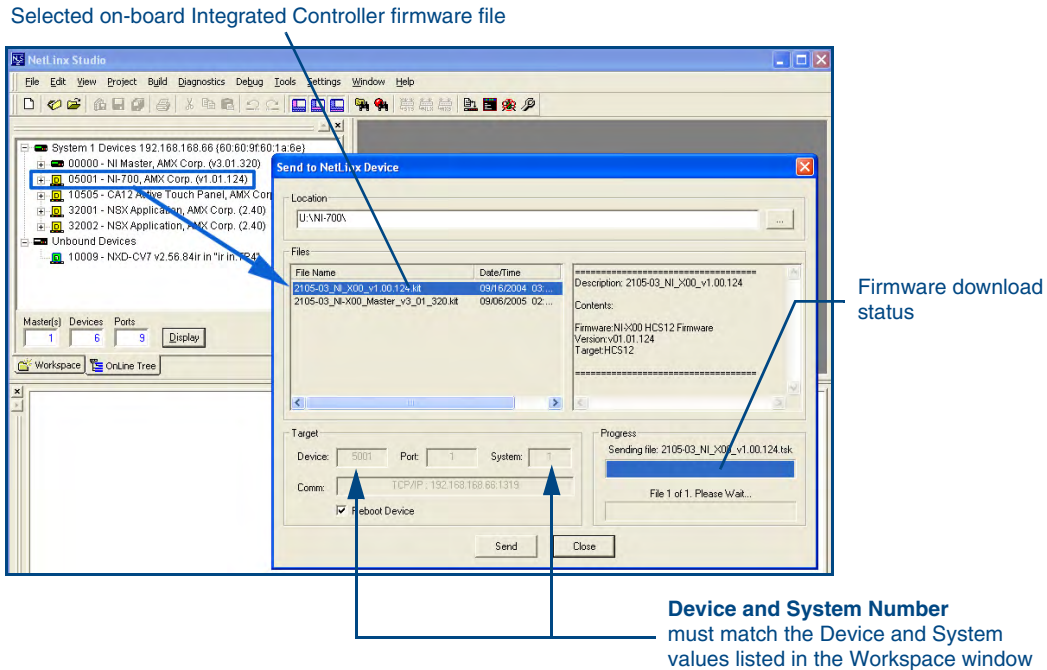

FIG. 8 Send to NetLinx Device dialog (showing on-board Integrated Controller firmware update via IP)
7. From within Studio, select **Tools > Firmware Transfers > Send to NetLinx Device** from the Main menu to open the Send to NetLinx Device dialog (FIG. 8). Verify the target's System number matches the value listed within the active System folder in the **OnLine Tree** tab of the Workspace.
8. Select the Integrated Controller's (**_X00**) from the **Files** section (FIG. 8).
11. Click **Send** to begin the transfer. The file transfer progress is indicated on the bottom-right of the dialog (FIG. 8).